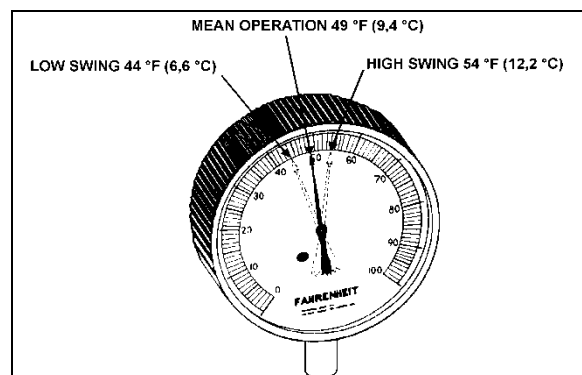

FIGURE 74: HIGH & LOW SWING TEMPERATURE AT REMOTE BULB 22047
6. Check approximately 5 readings of pressure at 2-minute intervals and convert to temperature using the vapor-pressure table. Likewise check the temperature reading at the remote bulb at the same 2-minute intervals and record the low and high swing readings of the needle (Figure 74).